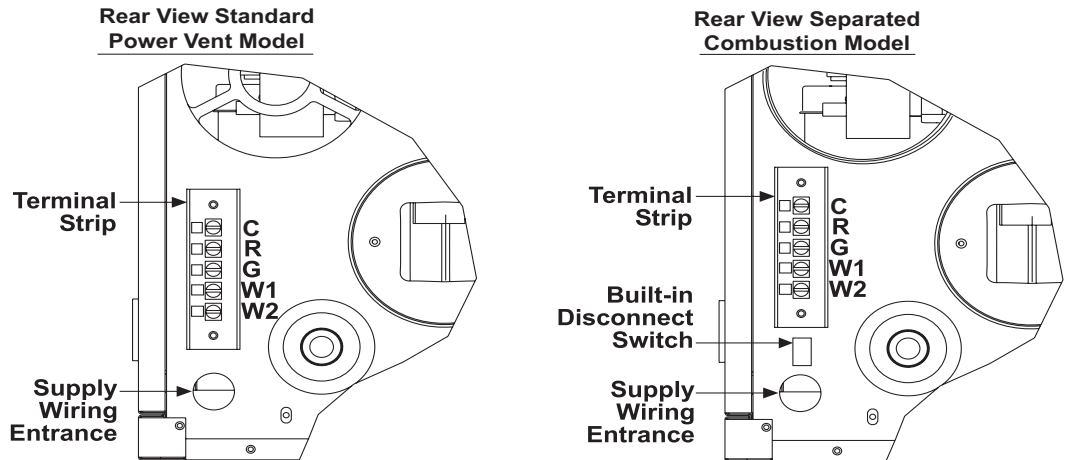

Figure 9. Supply Wiring Entrance and Control Connection Terminal Strip
- The supply wiring enters at the rear of the heater, as shown in **Figure 9**. For UBX and UDX models, the supply wiring connects directly to leads on the integrated circuit board. For UBZ and UDZ models, the supply wiring connects to the disconnect toggle switch.
- The terminal strip for 24V control connections is located on the outside of the cabinet at the back of the heater, as shown in **Figure 9**. Wires from the terminal strip are factory-wired to the circuit board.
- Make thermostat connections at the terminal strip on the back of the heater (see Figure 9). The strip has five terminals: C, R, G, W1, and W2. Refer to the wiring diagram provided with the heater.